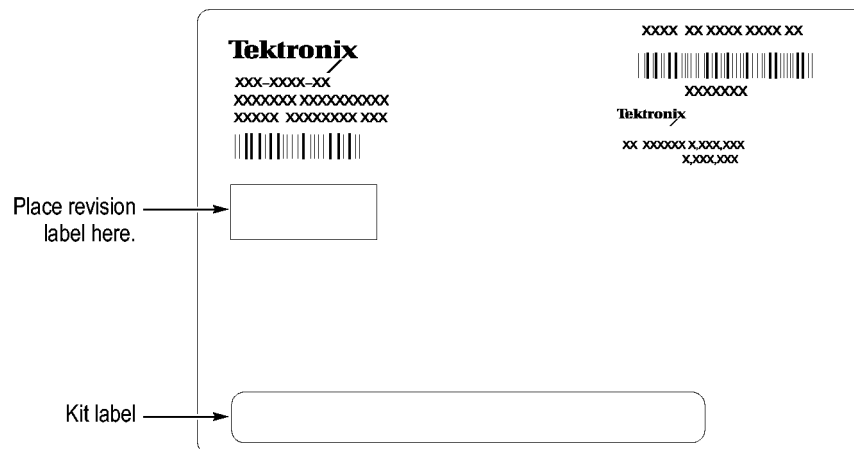

Figure 4: TLA700 series logic analyzer module label
- PowerFlex kit label. This label is located on the side of the module; it lists the current PowerFlex option and the upgrade key. (See Figure 4 on page 5.)
4. Locate the big label on the side of the logic analyzer module. (See Figure 4.)
5. Note the location of the long label. (See Figure 4.) Depending on your instrument, this could be a label inside a rectangle or a string of text.
(See Figure 4.) For TLA7NAx or TLA7Bxx modules, skip to Step 11 after you have completed Step 6.